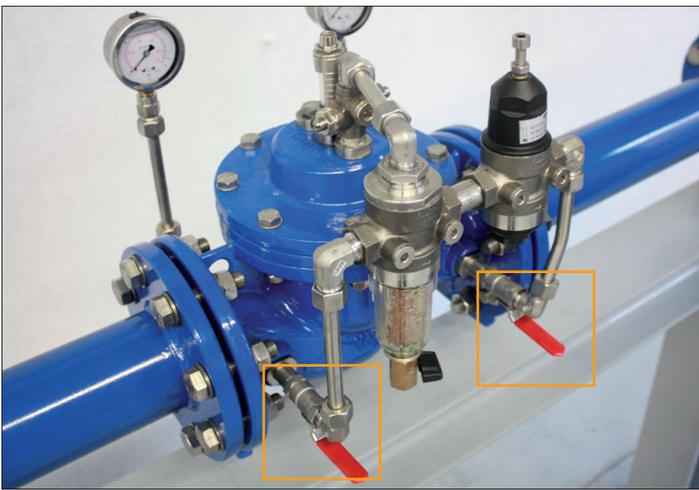

Figure 7: Open ball valves with manual levers running in parallel to the piping of the control circuit
3. Put all ball valves at the control circuit into open position. The ball valves are open when the manual levers run in parallel to the piping of the control circuit (see Figure 7). Make sure that the ball valve at the filter and the venting valve are completely closed (exception: for varieties with automatic venting the venting valve does not need to be checked).